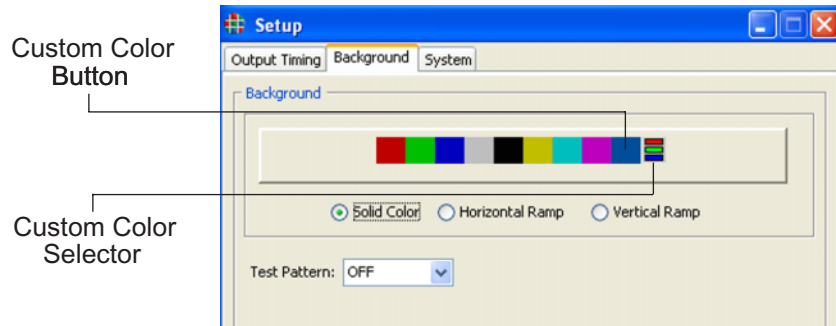

Figure 3-12. WCP Background Custom Color Buttons
- ~ Click on the Custom Color Selector button (Figure 3-12) at the right end of the row of colored buttons.
- ~ To make the custom color active, click on the **Custom Color** button (Figure 3-12) to the left of the Custom Color Selector (multi-colored) button.